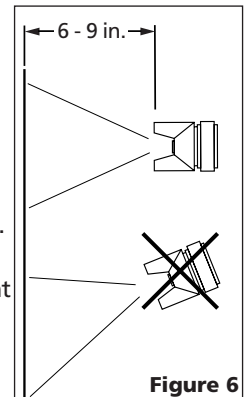

Figure 6
1. Begin spraying. Always keep the gun at right angles to the work (See Figure 6).